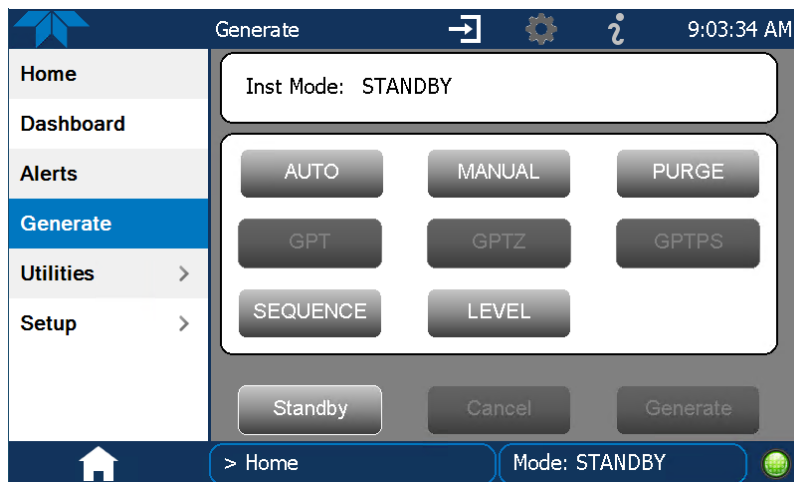

Figure 2. Screenshot of the Generate menu on the T700 calibrator.
4. From the T700 dilution calibrator, go to **Generate** > **Sequence** to view a selection of preset sequences, as shown in Figures 2 and 3.